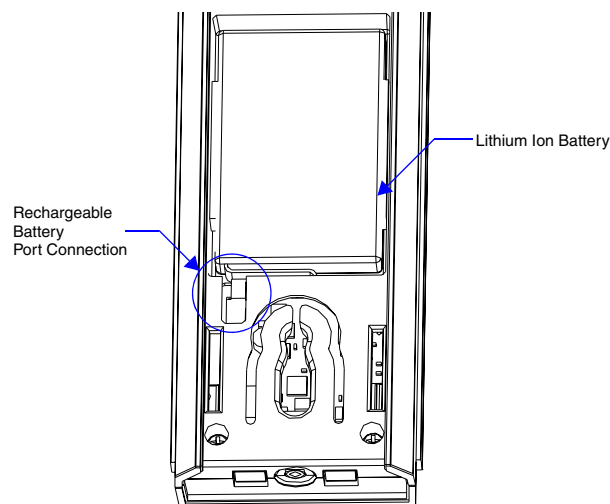

FIG. 8 Rechargeable Battery Port on The Mio Remote
6. Place the new housing on the device so that the rechargeable battery port connection is now accessible. See FIG. 8.
8. Connect the terminal end of the Lithium Ion battery to the port shown in FIG. 8. It may be necessary to use a thin, blunt object to fully seat the battery connector within its port.